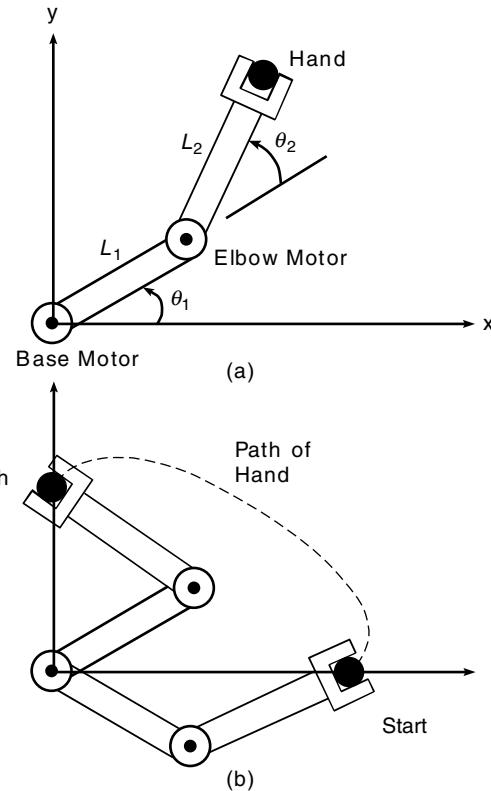

Figure P7
7. Figure P7 illustrates a robot arm that has two “links” connected by two “joints”—a shoulder or base joint and an elbow joint. There is a motor at each joint. The joint angles are θ_1 and θ_2 . The (x, y) coordinates of the hand at the end of the arm are given by